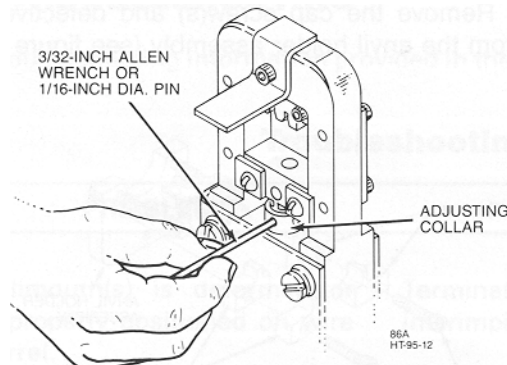

Figure 10
2. Insert the turned-down end of the 3/32-inch Allen wrench or a pin, approximately 1/16-inch in diameter, into one of the holes in the adjusting collar (see Figure 10). Then rotate the collar about 1/2-turn counterclockwise.